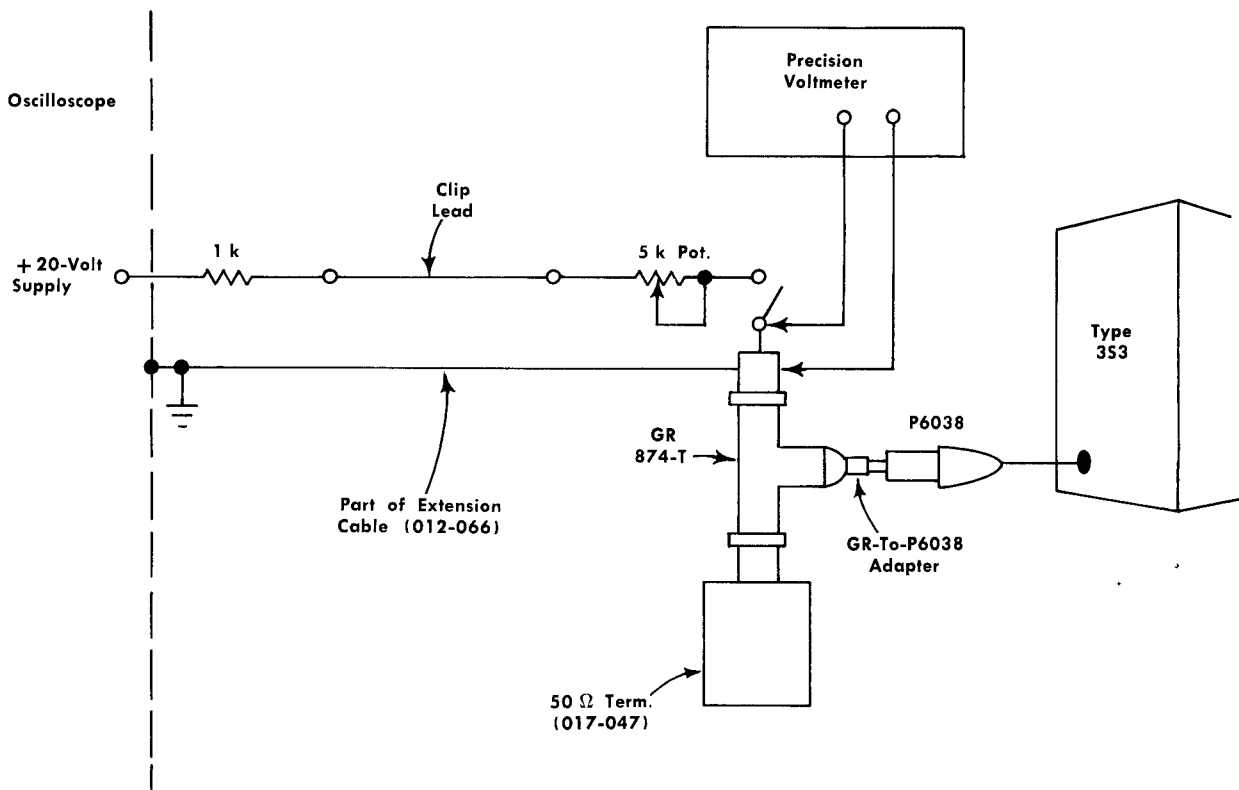

Fig. 5-5. Circuit used to set Type 353 dc gain.
- a. Connect the Channel A P6038 Probe to the system shown in Fig. 5-5. Leave the switch open.
- g. Connect the GR 874-T of Fig. 5-5 to the Type 113 Delay Cable end so that the signal generator can be used to operate the Type 3S3, and externally trigger the Type 3T77 through the Type 110. The Type 110 trigger takeoff operates without the POWER switch ON. Remove the 2X attenuator in the line to the Type 113.